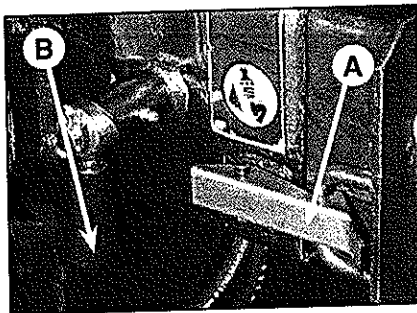
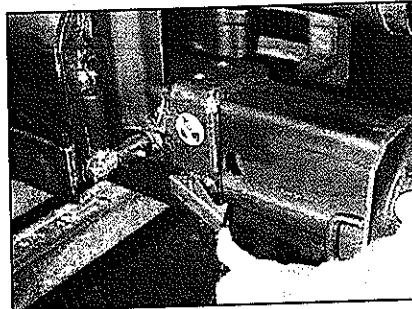

fig. 8
fig. 8a
- Position the lever **B** of the locking device (fig. 8), placed on the base, upwards (fig. 8a); the spring loaded security pin of the device will be released from its position.
- Release the locking device (fig. 8a) bringing it to the outside of the hook spring **A** and simultaneously pull, extending from the base the outrigger support.